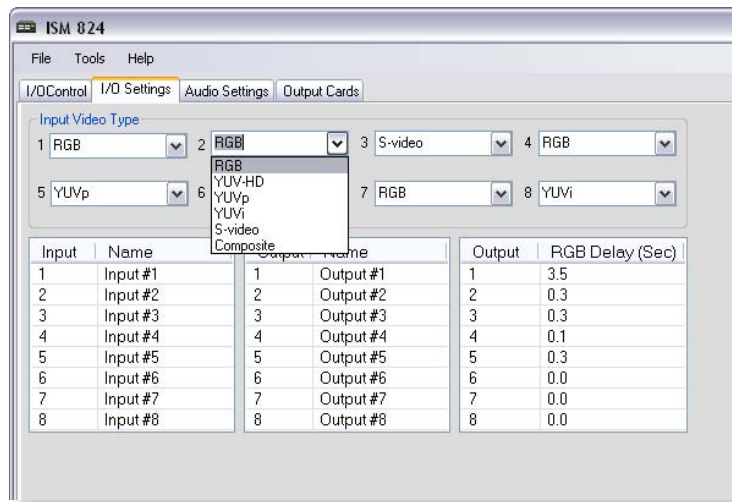

Figure 5-24 — Scroll down video type list and select
1. Click on the drop down box of the input number to be configured (see Figure 5-24). A list of video types appears.